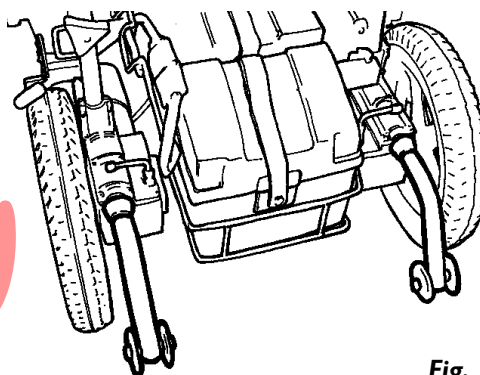

Fig. 2
Your Powerchair can safely climb gradients of 20% or a ratio 1 : 5. DO NOT attempt to climb or descend slopes that are in excess of these figures, fit anti-tipping levers (Fig. 2) for slopes and outdoor use.
1. Anti-tipping levers are fitted (Fig. 2).